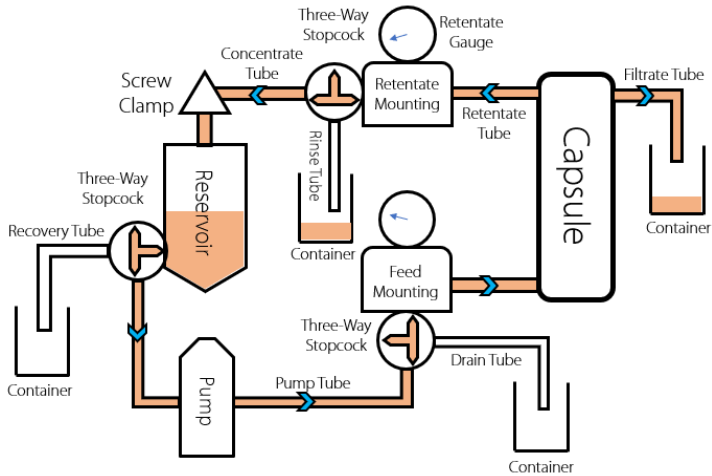

Figure 8
- a. Set the three-way stopcocks and adjust the flow path as shown in figure 8
- d. Circulate the rinsing solution continuously until the volume of the solution in reservoir left as suggested. Turn off the pump, and refer to “(2) Draining and Collecting” steps as mentioned before to drain the solution.
(4) Pretreatment and Concentration